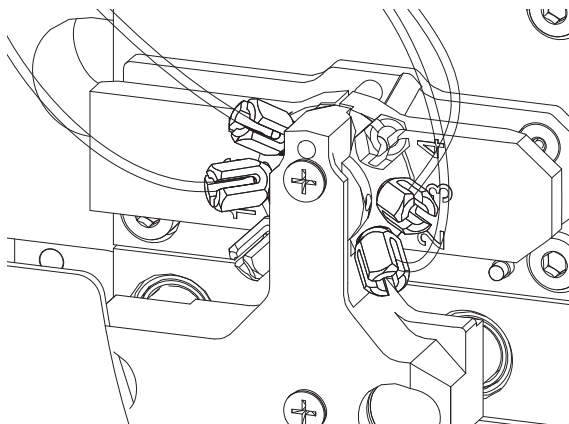

Figure 41 Slotted PEEK fitting
- 5 Loosen the slotted PEEK fitting using the cube wrench and pull the capillary out. See Figure 41.